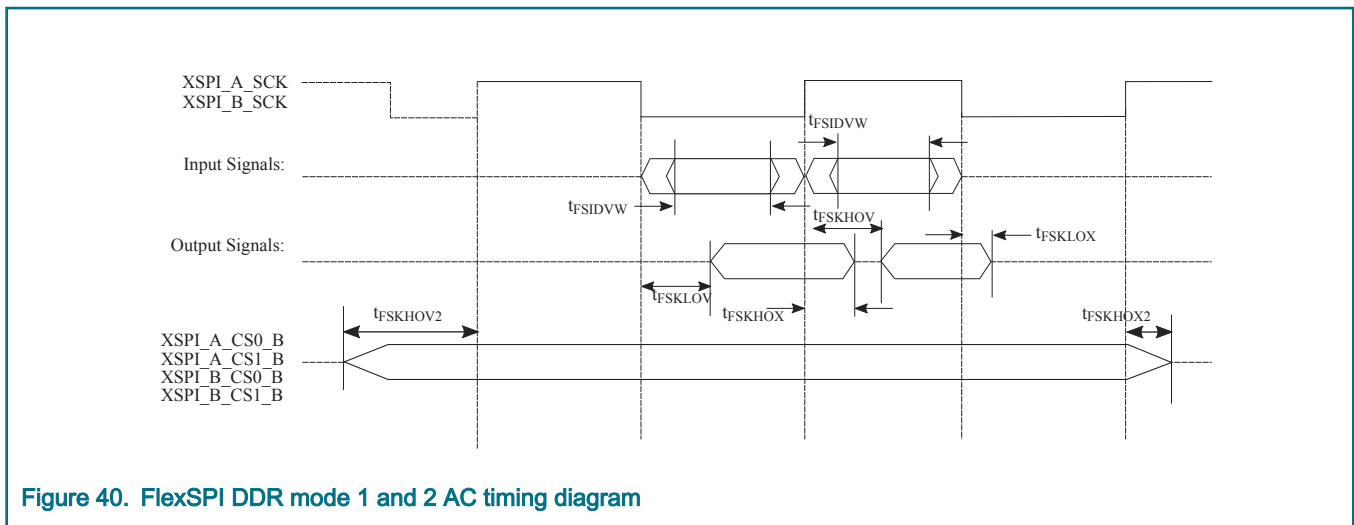

Figure 40. FlexSPI DDR mode 1 and 2 AC timing diagram
6. See Figure 40.
4. See Figure 40.